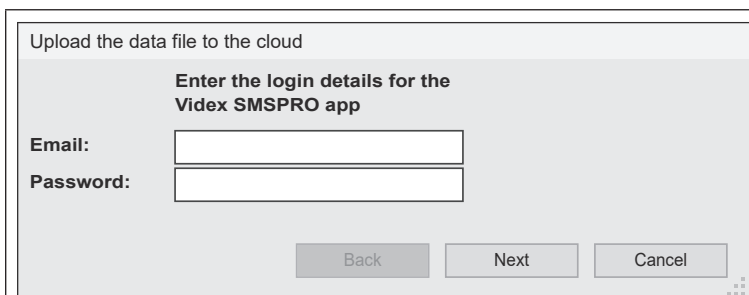

Fig. 106
2. After saving the .dat file click on **File** from the top menu and then select the **Upload data to cloud** option from the drop down menu. The **SMS Wizard PRO App** email and password login prompt window will appear, **Fig.106**.